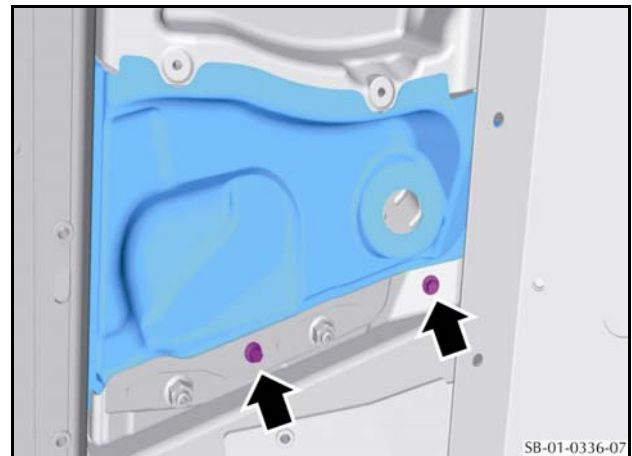

Figure 23
25. Put the shedder panel into position (Refer to Figure 23).